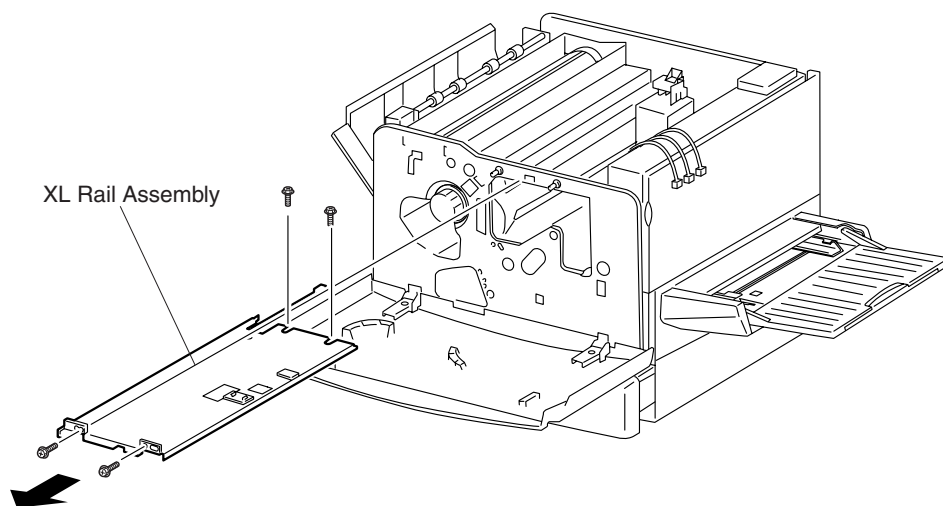

Figure 2
7. Remove the two screws securing the XL Rail Assembly to the front of the printer frame (Figure 2).